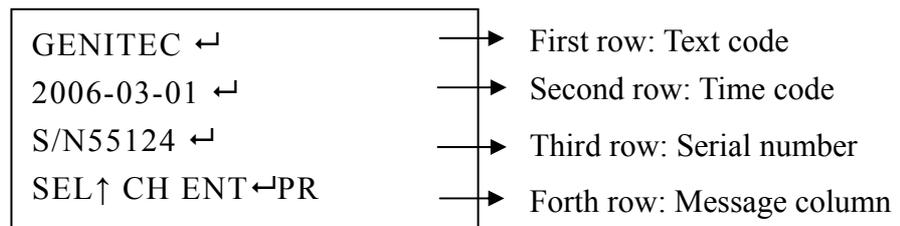

Figure 33
11. After modified the third row, press the button  to end the modification. (Refer to figure 33)